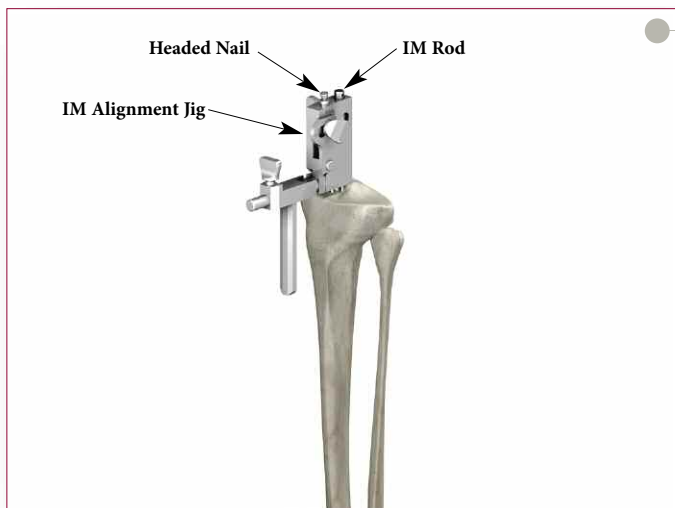

Figure 59
- Slide the IM Alignment Guide over the Alignment Rod (**Figure 59**).